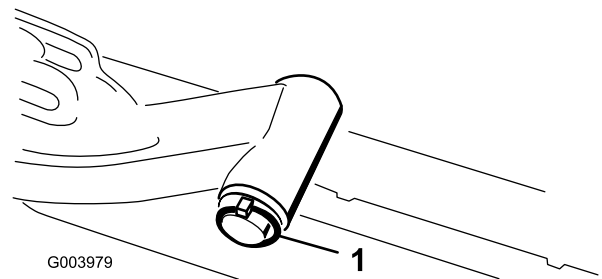

Figure 8
- A. Remove the lynch pin and washer securing the lift arm pivot shaft to the lift arm and slide the lift arm pivot shaft out of the lift arm (Figure 8).
- C. Insert the lift arm shaft into the lift arm and secure it with the washer and lynch pin (Figure 8).